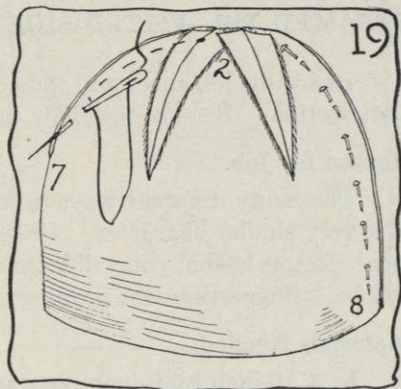

FIG. 19.
- (1) Pin section *A* on top of section *B* wrong side out, with the points 2 and 5 matching perfectly.
- (2) Baste from points 2 and 5 (which are on top of each other) down to point 7. This completes one half of the center seam, and the part that goes to the center front of the tip (see Figure 19).